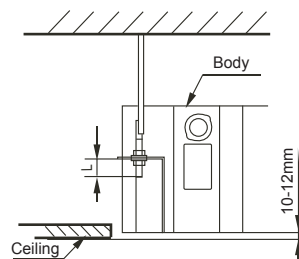

Fig. 5-6
- Adjust the position to ensure the gaps between the body and the four sides of ceiling are even. The body's lower part should sink into the ceiling for 10~12 mm. (refer to fig.5-6)
- In general, L is half of the screw length of the installation hook. (refer to fig.5-6)